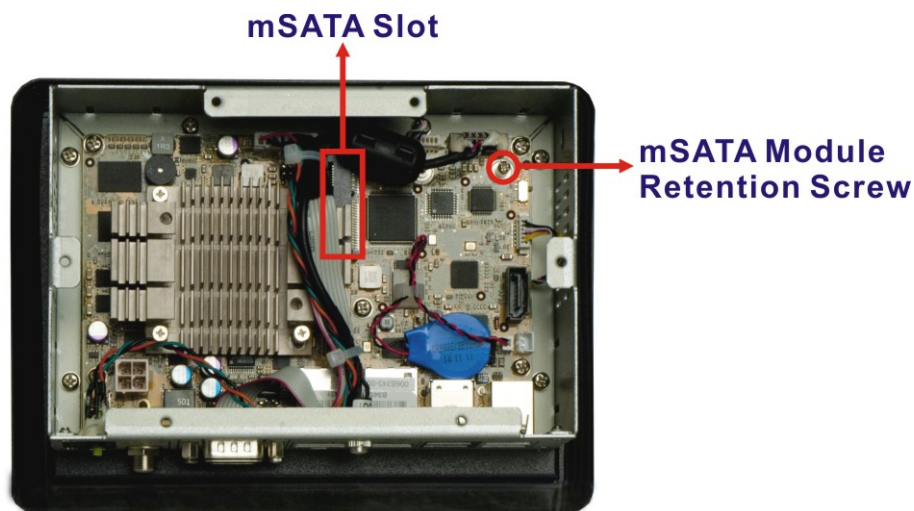

Figure 3-4: mSATA Module Slot Location
Step 2: Locate the SATA connector as shown in **Figure 3-4**.
Step 2: Locate the full-size PCIe Mini card slot. Remove the preinstalled retention screw on the screw pillar of the PCIe Mini card slot as shown in **Figure 3-4**.